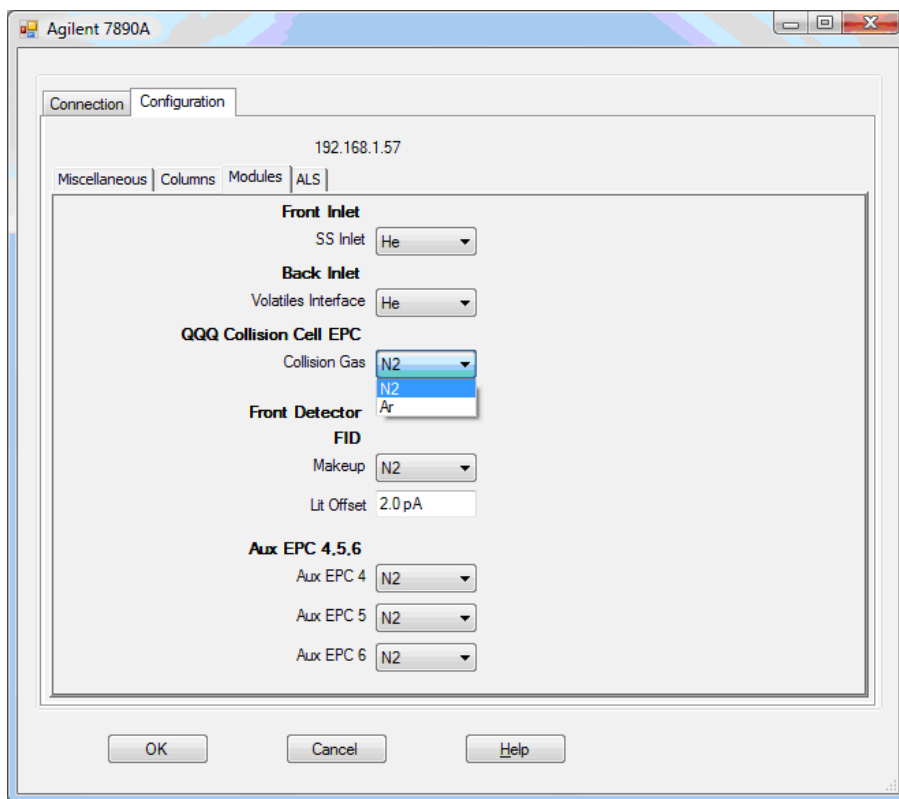

Figure 11 Configure collision cell gas
- 2 Select the **Modules** tab to display the screen. See Figure 11.